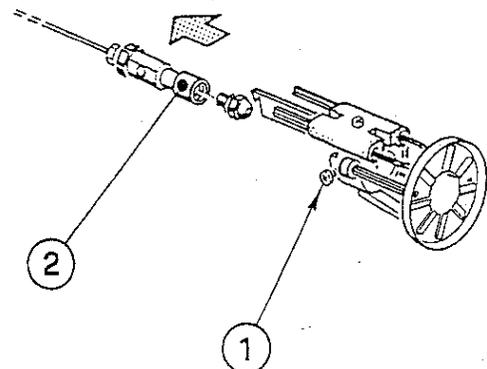

Figure 6: Riello Nozzle Replacement
b. **Nozzle Replacement**, refer to Figure 6.
- i. Remove the NOZZLE ADAPTER (2) from the DRAWER ASSEMBLY by loosening the SCREW (1).
- iv. Replace adapter, with nozzle installed, into drawer assembly and secure with screw (1).